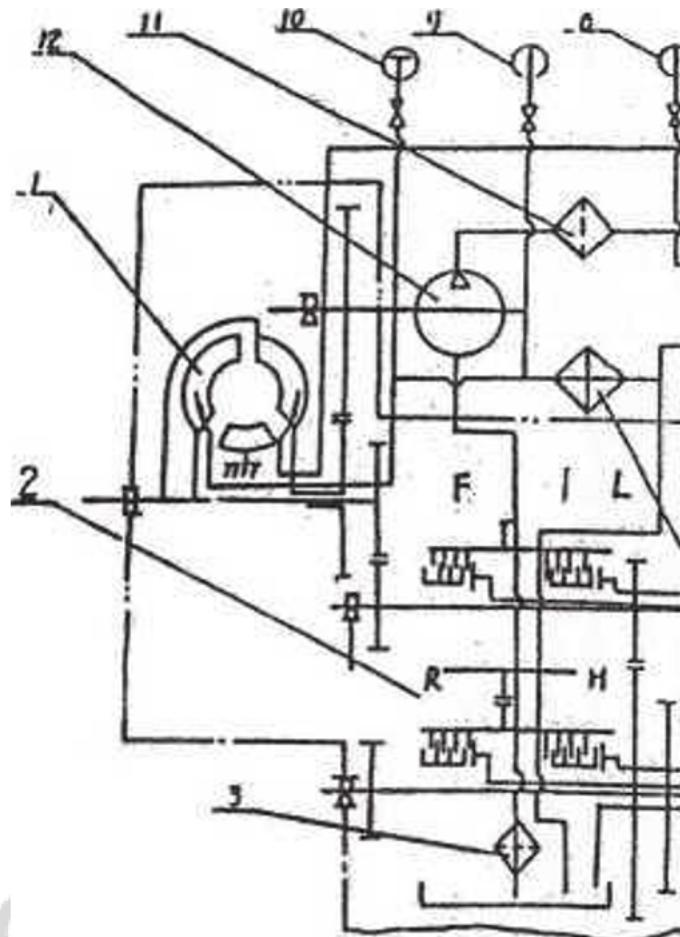

Figure 2-5: Torque Convertor-Gear Box Oil Duct
2) Drive hydraulic system (Figure 2-5)